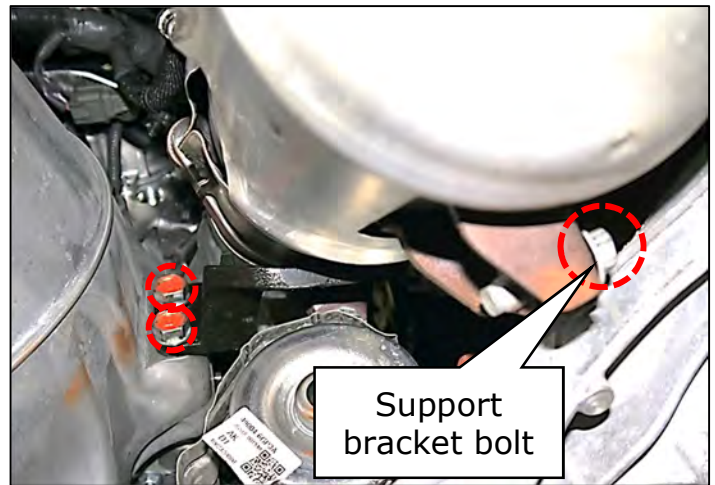

Figure 77
78. Torque all (8) of the transmissison side mounting bolts to 75 N•m(7.7 kg-m, **55 ft-lbs**).
79. Torque the RH catalytic converter support bracket bolt to 47.8 N•m(4.9 kg-m, **35 ft-lbs**). (Figure 77)